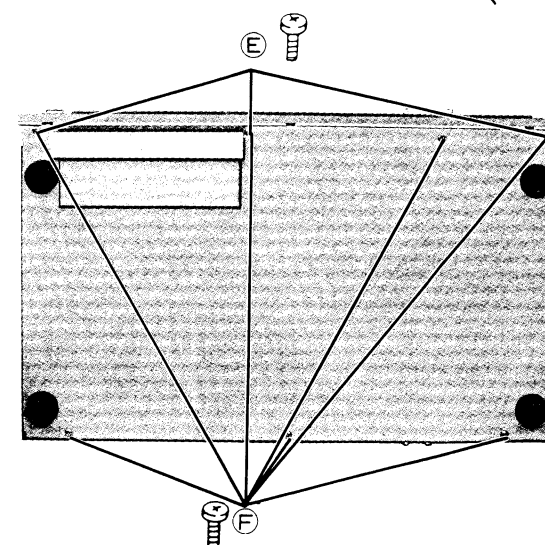

Figure 12
3. Remove three screws (E) ( $3\phi \times 8\text{mm}$ ) from the bottom side of the unit. (See Figure 12).
1. Remove seven screws (F) ( $3\phi \times 8\text{mm}$ ) from the bottom side. (See Figure 12)